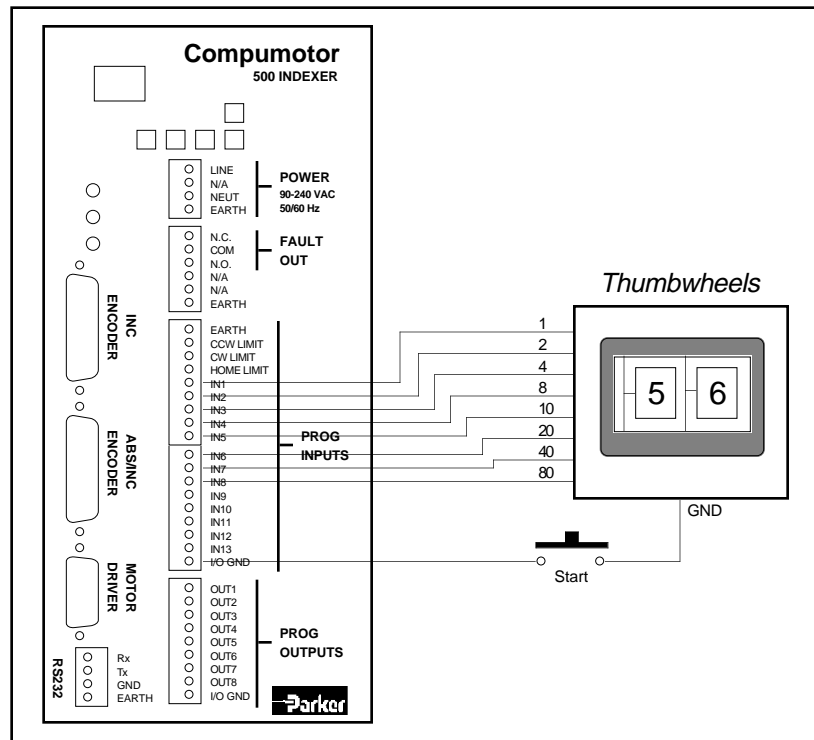

Figure 4-16. Model 500 Thumbwheel Installation
The following example shows how the Model 500 can be used to execute sequences with remote thumbwheels. In the example, only 3 sequences are entered. As many as 100 sequences may be defined and up to 99 may be executed using remote thumbwheels. Sequence 100 is automatically executed during power up or reset. Refer to the Reset (z) command in the **Model 500 Software Reference Guide**. Install your thumbwheels as shown in Figure 4-16.
STEP ③ Connect the thumbwheels to the **IN1 - IN8** inputs as shown in Figure 4-16.